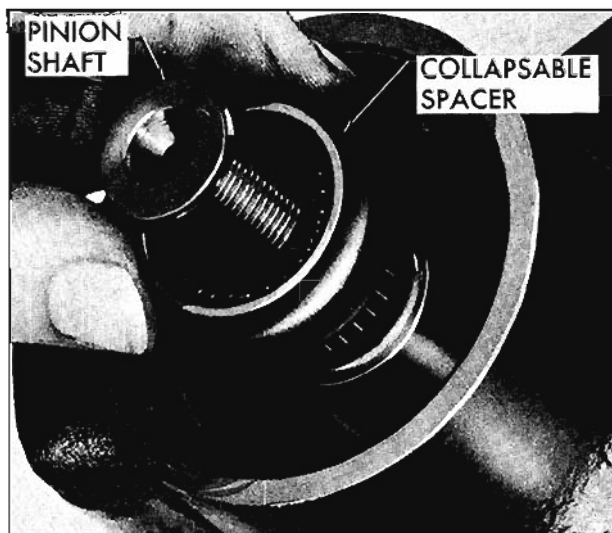

Fig. 10-127 Installing Collapsible Spacer
1. Position pinion assembly in carrier and install collapsible spacer as shown in Fig. 10-127.